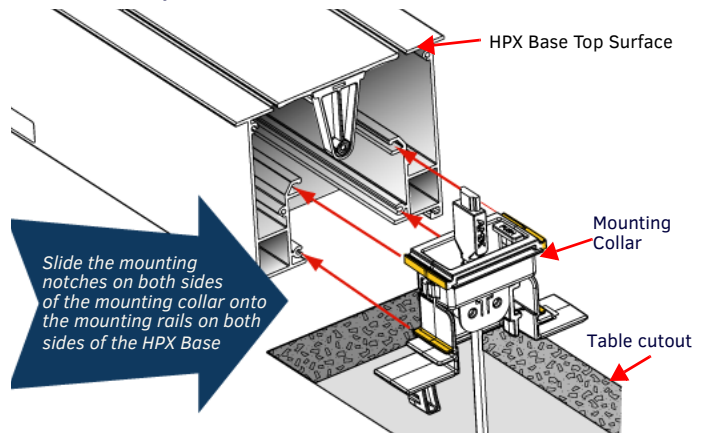

FIG. 5 RETRACTABLE CABLE MODULE - MOUNTING INTO AN HPX BASE ASSEMBLY
8. Feed the mounting collar up through the table cutout to reach the HPX base assembly. Align the mounting notches on the mounting collar with the mounting rails on the HPX (FIG. 5).